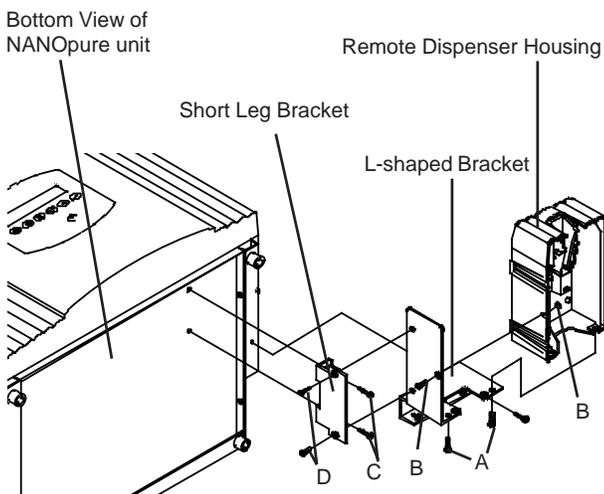

Figure 5 Remote Dispenser Housing Installation
2. Place the L-shaped bracket to the left and back sides of the remote dispenser housing. Replace the two screws (1/2" x 8/32" pan head) removed in step 1 into the back of the housing to attach the bracket (See Figure 5, A).
3. Place one flat head screw (1/2" x 8/32") into the left side bottom of the L-shaped bracket. Secure it with the nut supplied. (See Figure 5, B).
4. Attach the remaining bracket with the two pan head screws (1/2" x 8/32") to the bottom right side of the Infinity unit with the short legs pointing to the right. (See Figure 5, C).
5. Locate the remote dispenser housing/L-shaped bracket assembled in step 2 and the two remaining flat head screws. Line up the two holes in the bracket mounted on the bottom of the Infinity unit with the two holes in the remote dispenser housing/L-shaped bracket. Secure with the two flat head screws. (See Figure 5, D).